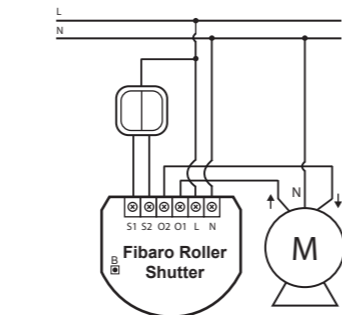
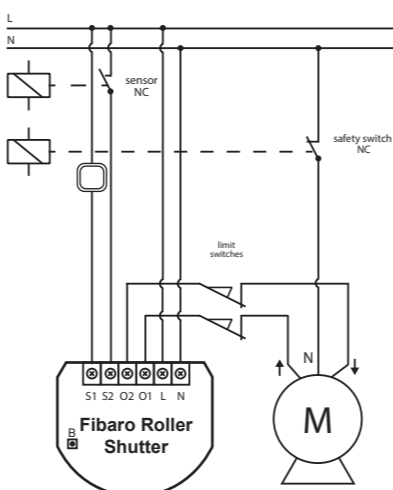

Fig. 1 Roller Shutter wiring diagram
Fig. 2 Connecting Roller Shutter to GATE motor
- Connect the Roller Shutter in accordance with the wiring diagram presented on Fig. 1 (roller blinds, venetian blinds) or Fig. 2 (gates).
- Arrange the antenna (tips presented below Fig.2)
- Make sure the module is connected to the power supply, according to Fig.1
- Make sure the module is connected to the power supply, according to Fig.1, and to the switch keys as well (S1 and S2 inputs).